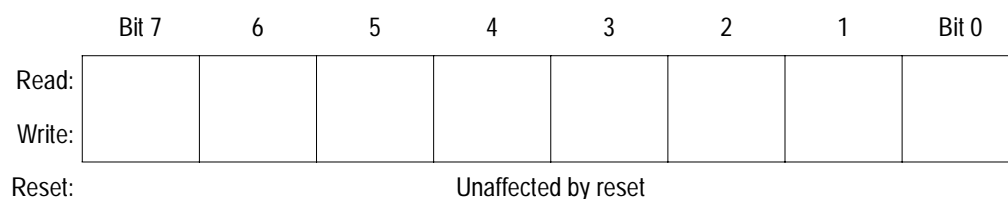

Figure 3-3. Index Register (X)
In the indexed addressing modes, the CPU uses the byte in the index register (X) shown in Figure 3-3 to determine the conditional address of the operand. See 9.3.5 Indexed, No Offset, 9.3.6 Indexed, 8-Bit Offset, and 9.3.7 Indexed, 16-Bit Offset for more information on indexed addressing.